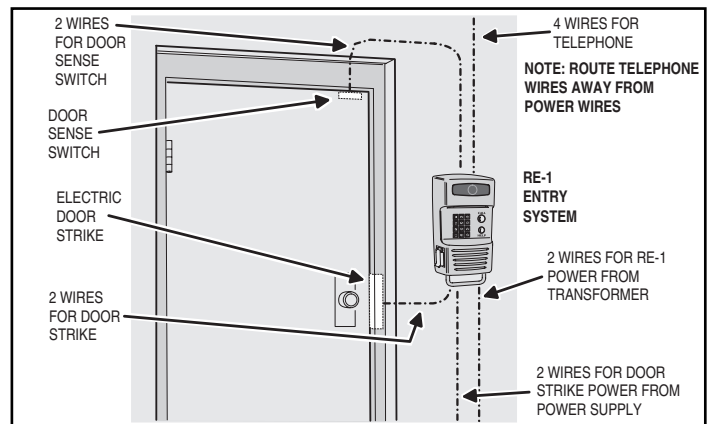

Figure 11. Door Installation Example
- Connect the 6-conductor cable as shown in Figure 11.